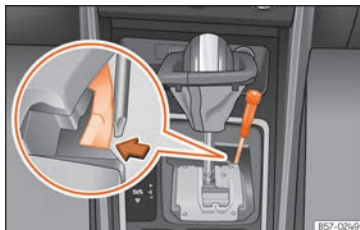

Fig. 57 Selector lever: manual release from position P.
- Using a screwdriver, press and hold the yellow unlocking tab sideways » » » Fig. 57.